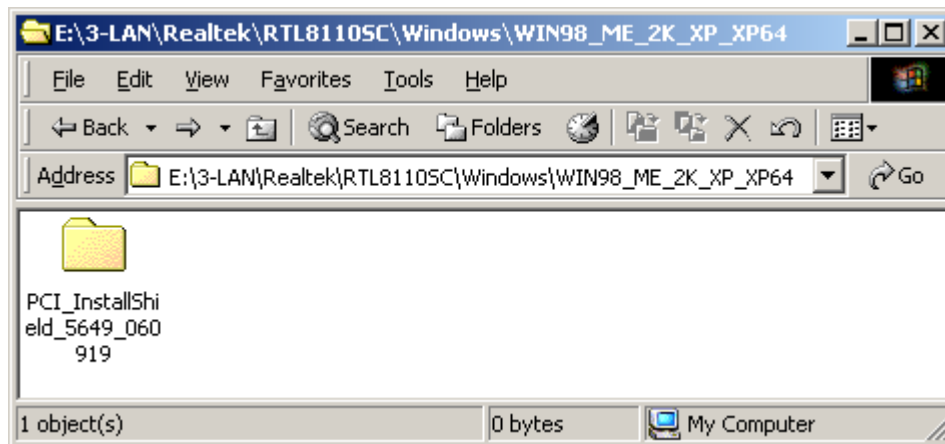

Figure 7-31: WIN98_ME_2K_XP_XP64 Folder
Step 6: Double-click the **WIN98_ME_2K_XP_XP64** folder and a new window opens (Figure 7-31).